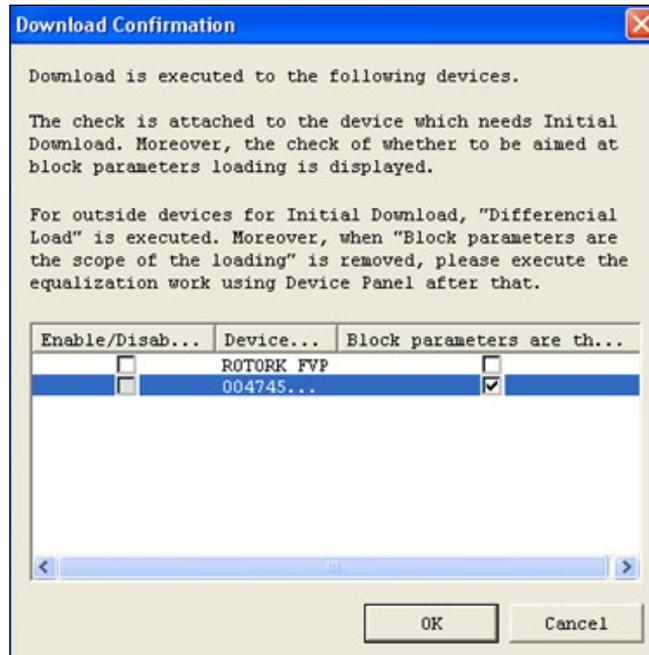

Figure 82 - Device Download Confirmation
2. Select the SVI FF device in the download confirmation window for the download to proceed (Figure 82).